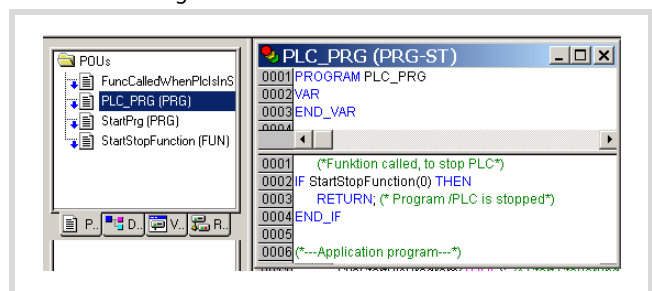

Figure 125: Scanning START/STOP
- Enter the program for PLC_PRG as shown in figure 125. It is important that the user program and the POU calls are inserted as shown in figure 125.